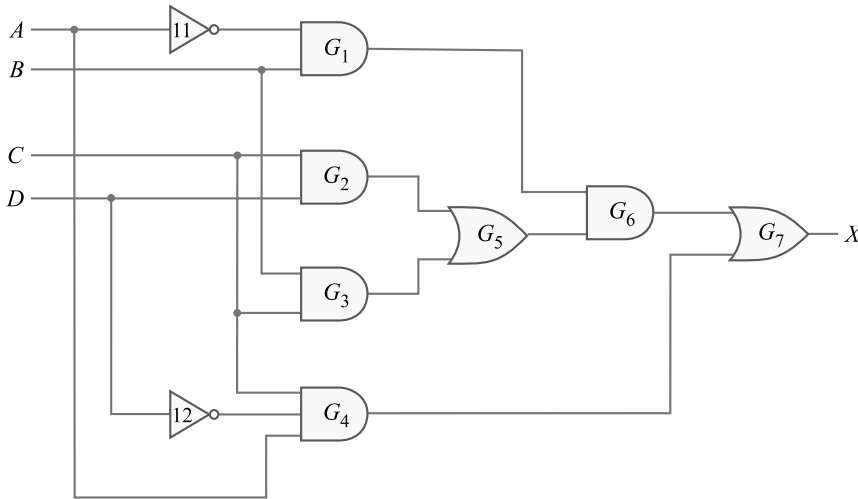

Fig. 24.72
**Illustration.** Fig. 24.72 shows the logic circuit. The Boolean expression for this circuit is
Implementing this equation (*i.e.*  $X = AC\bar{D} + \bar{A}BC$ ) into the logic circuit, it only requires two three-input AND gates, two inverters and one two-input OR gate as shown in Fig. 24.73. Note that this minimised circuit is equivalent to the original circuit of Fig. 24.72 but only requires five gates (instead of nine).